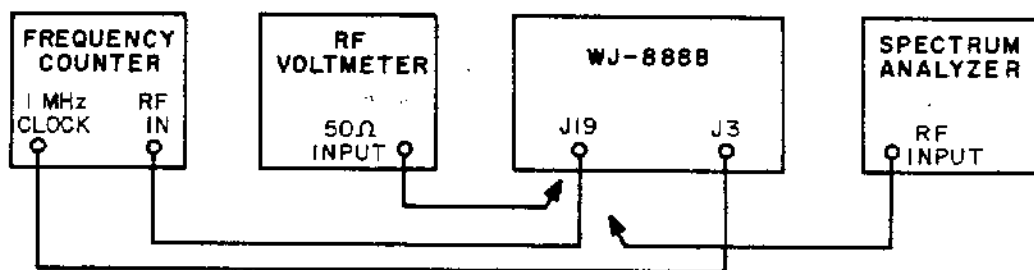

Figure 5-11. Test Setup, BFO Performance Test
- (1) Connect the equipment as shown in Figure 5-11.
- (2) Set the receiver controls as follows: Controls not mentioned may be left in any position.
- (3) The frequency counter should indicate 455.000 kHz.
- (4) Put the DETECTION MODE in the CW VAR condition.